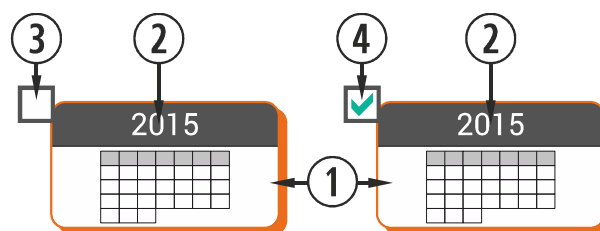

Figure 17
In the daily Schedule programming, we have to select at what time we want the device to be turned on (②), temperature may be selected using the scroll bar or pressing the temperature button, after which a keyboard will be displayed in order to manually introduce the temperature (③) provided we are working with room temperature mode (see section 2.5), the power the stove is working with. If we select “Off”, the stove will not be turned on at that time and, finally, we have to **save** such programming and activate the calendar on the main screen (See Figure 17).